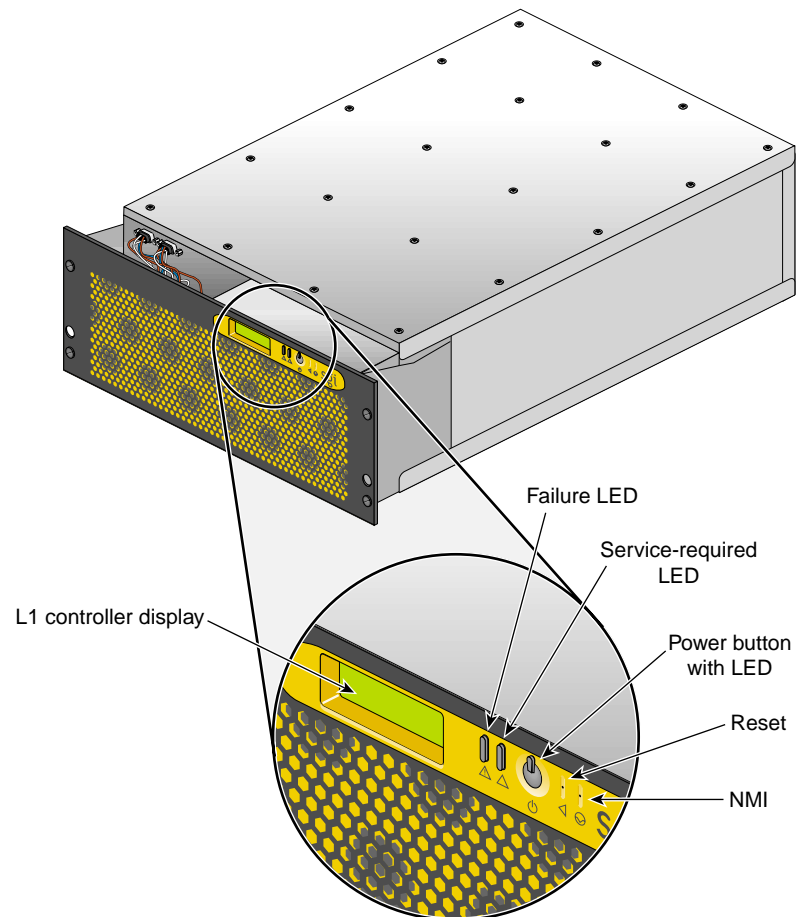

Figure 1-5 L1 Controller Display Location Example
- On the L1 controller's display at the front of each brick (except the TP900 and D-brick2), as shown in Figure 1-5, you can monitor brick items. For example, you can see if the fans on a particular brick are operating properly.